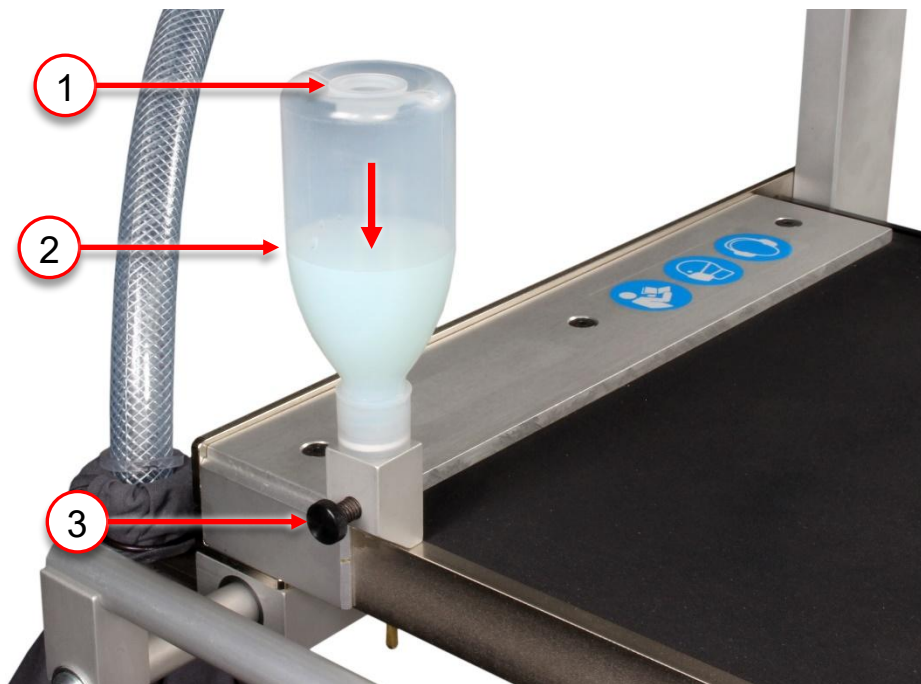

Figure 50 Topping up the lubricant
1. Ensure that the rotary knob (3, Figure 50) is closed.
2. Remove the sealing plug at the top of the lubricant container (1, Figure 50) and set aside.